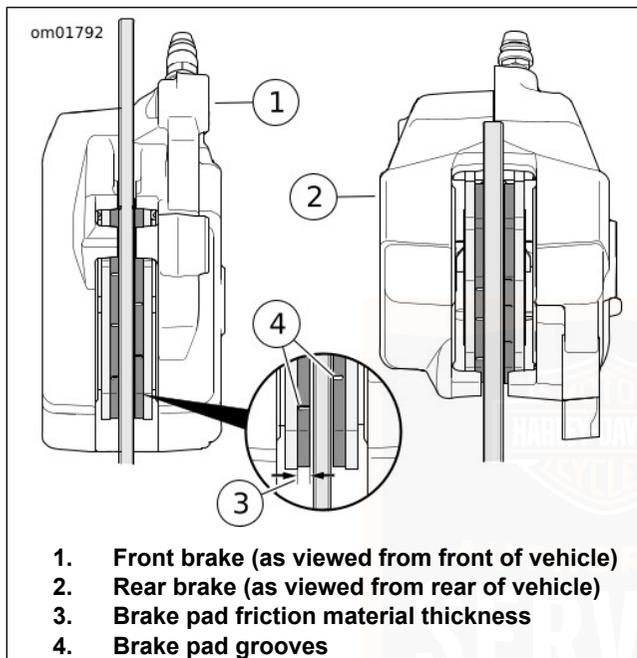

Figure 81. Brake Pad Friction Material
1. See Figure 81. Check the brake disc as it spins. The disc should run true in the brake caliper.